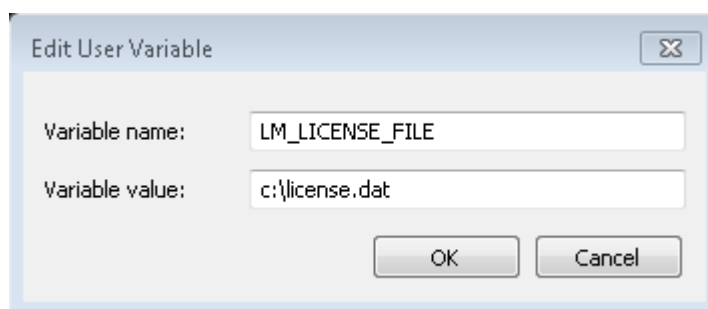

Figure 2-2 Setup LM_LICENSE_FILE Environment Variable
5. In the popup **New User Variable** dialog as shown in **Figure 2-2**, type “**LM_LICENSE_FILE**” in the **Variable name** edit box and type “**c:\license.dat**” in the **Variable value** edit box.